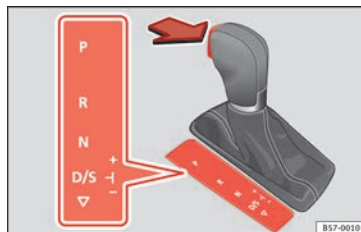

Fig. 181 Selector lever lock.
- Press the brake pedal *and*, at the same time, hold the lock button in the direction of the arrow » Fig. 181.